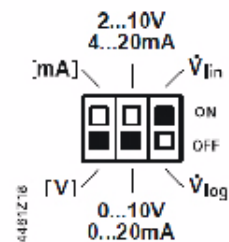

Figure 17 - Valve Connection Terminals
- The printed circuit board has a slot (refer to Fig. 17).